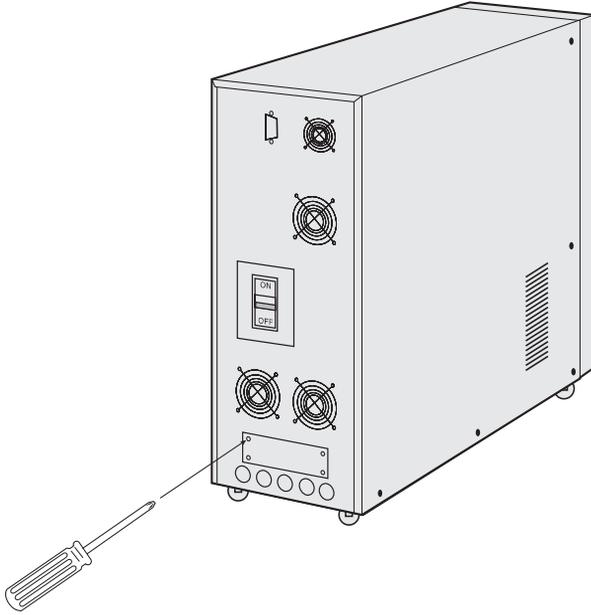

Figure 12
- (1) Remove two screws with "+" screw-driver (Figure 12)